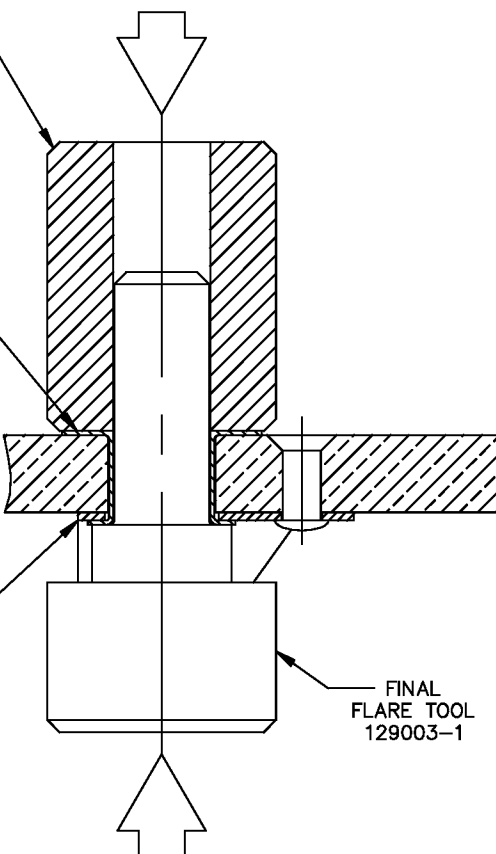

FIGURE 4
4. INSERT THE FINAL FLARE TOOL THRU BACK-UP TOOL AS SHOWN IN FIGURE 4. APPLY LOAD IN DIRECTION OF ARROWS TO FLARE THE GROMMET FLAT AGAINST THE CAGE. CHECK THE GROMMET FOR TIGHTNESS AND FLATNESS OF THE FLARED AREA. INCREASE PRESSURE IF NECESSARY TO BRING THE EDGE OF THE GROMMET TO LIE FLAT IN THE CAGE.